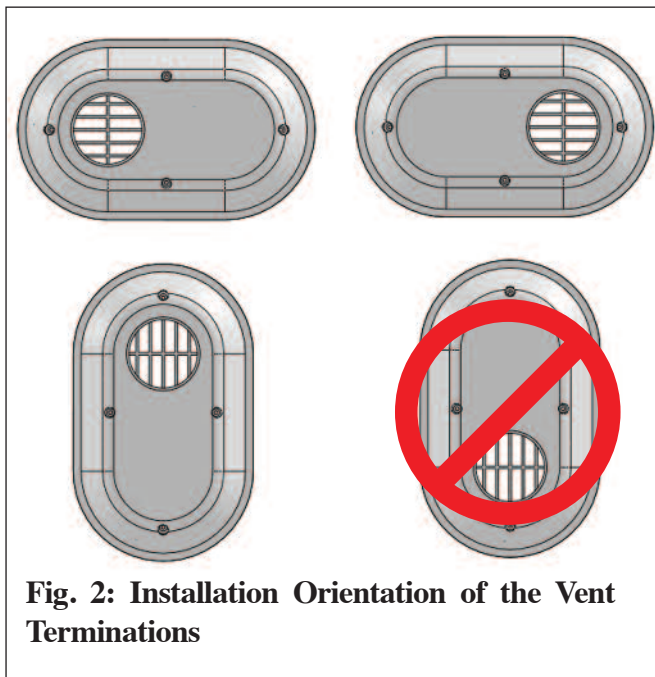

Fig. 2: Installation Orientation of the Vent Terminations
3. The sidewall Vent Termination is suitable for PVC or CPVC vent systems and may be installed in a horizontal or vertical configuration as shown in Fig. 2.
When locating the penetration of the vent and air pipes ensure the termination is properly oriented as shown in Fig. 2. For multiple vent terminations ensure the vent and air penetration are at the same height. Failure to do so can result in severe personal injury or substantial property damage.